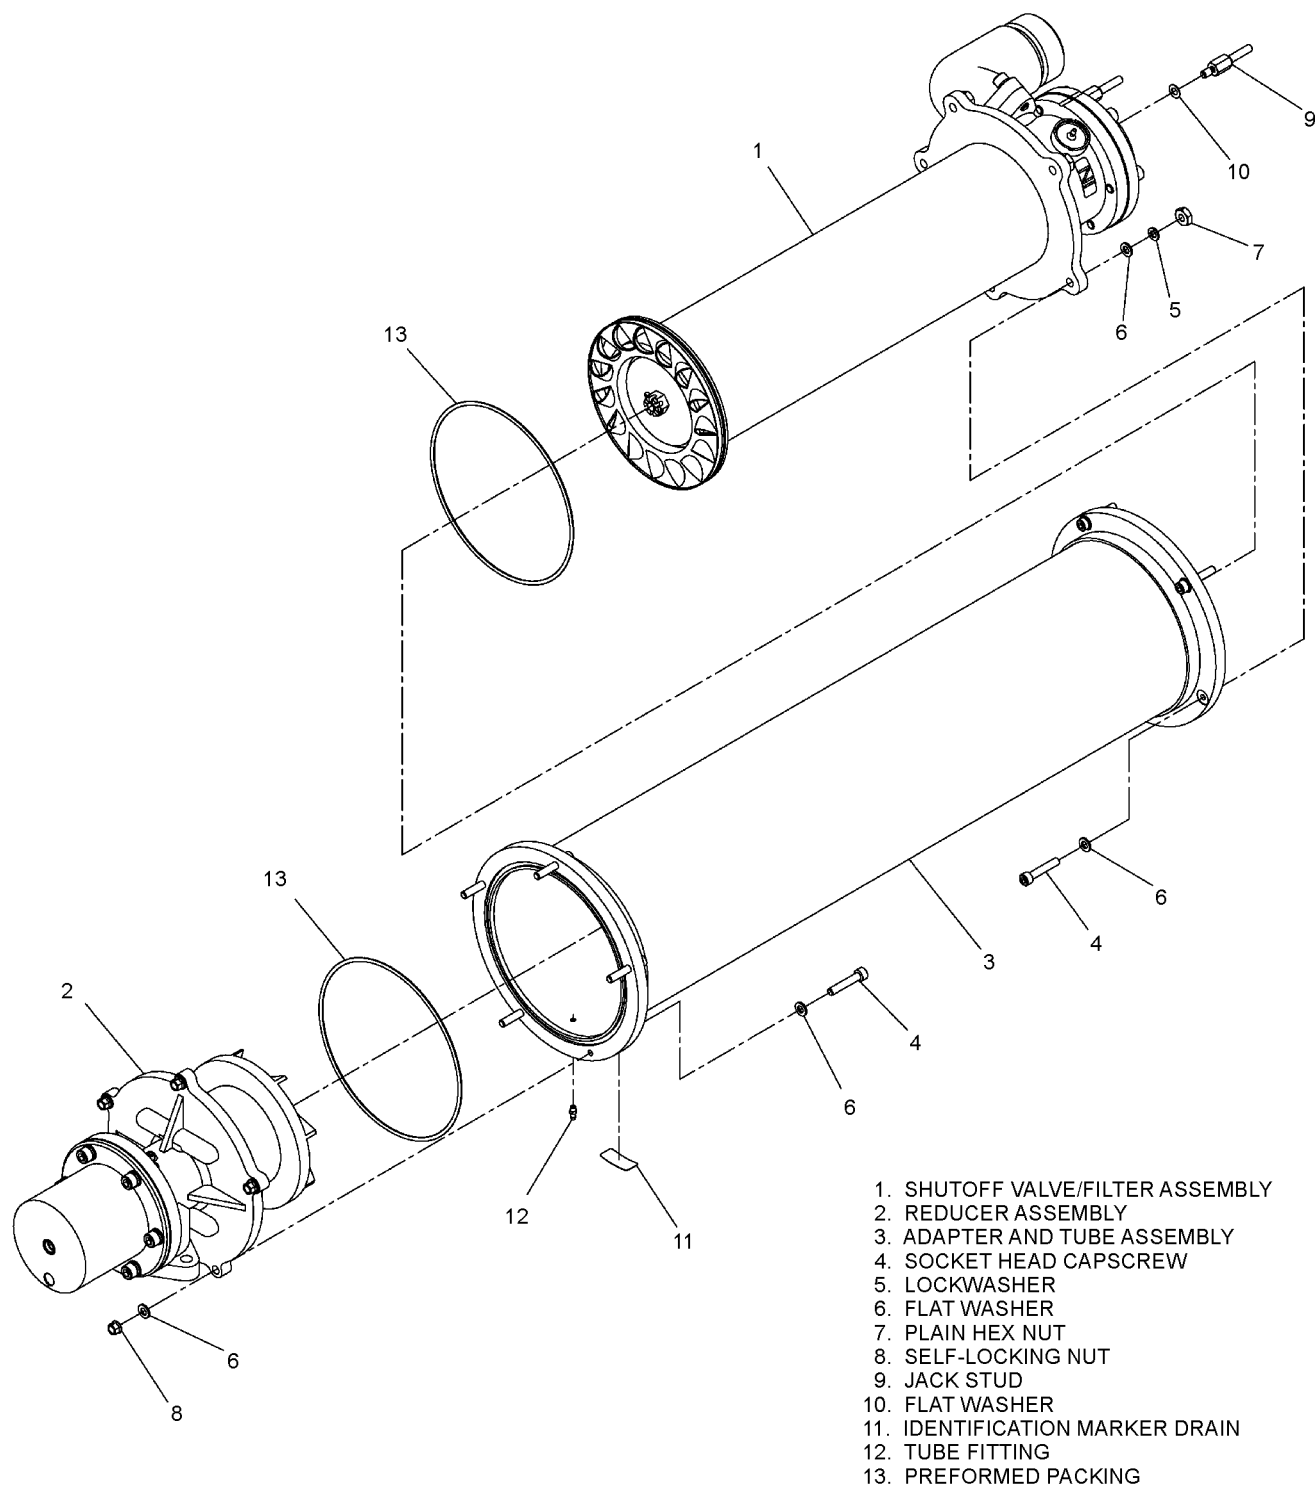

Figure 9-14. Shutoff Valve, Filter and Regulator Assembly, P/N 1653720-1
5. Lift the outlet end of the shutoff valve/filter/regulator assembly (6, figure 9-12) up and remove preformed packing (14, figure 9-12), then slide shutoff valve/filter/regulator assembly (7) back to clear the jack studs (9, figure 9-14) on the end of the shutoff valve/filter/regulator assembly (7).
7. Remove labeled plastic tubing DRAIN (40, figure 9-12) from the tube fitting (12, figure 9-14) on the bottom of the shutoff valve/filter/regulator assembly.
**9-54. SHUTOFF VALVE/FILTER ASSEMBLY (V1/FLTR1) DISASSEMBLY.** To disassemble the shutoff valve/filter assembly (V1/FLTR1) (1, figure 9-14), proceed as follows:
Index numbers refer to figure 9-14 unless otherwise noted.
**9-55. REDUCER ASSEMBLY (REG1) DISASSEMBLY.** To disassemble the reducer assembly (REG1) (2, figure 9-14), proceed as follows:
2. For ease of assembly and using an indelible marker or equivalent, mark connection between reducer assembly (2, figure 9-14) and adapter and tube assembly (3, figure 9-14) prior to disassembly.
3. Remove five self-locking nuts (8, figure 9-14) and flat washers (6, figure 9-14) coupling the reducer assembly (2, figure 9-14) to the adapter and tube assembly (3, figure 9-14). Leave five socket head cap screws (4, figure 9-14) with flat washers (6, figure 9-14) attached to the adapter and tube assembly (3, figure 9-14).
4. Remove the reducer assembly (2, figure 9-14) with preformed packing (13, figure 9-14) from the adapter and tube assembly (3, figure 9-14).